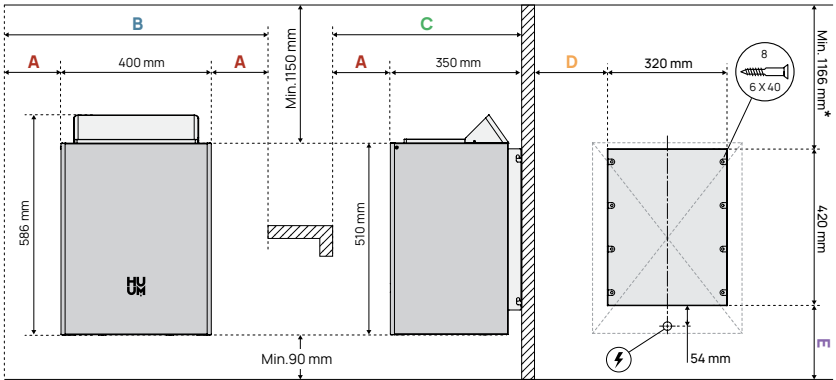

Figure 2. Positioning of the HUUM CORE Wall
- The input of the power cable is located on the back of the heater. The exact position of the cable on the wall is measured in relation to the heater mounting plate and has been indicated in **Figure 2 - 5**.